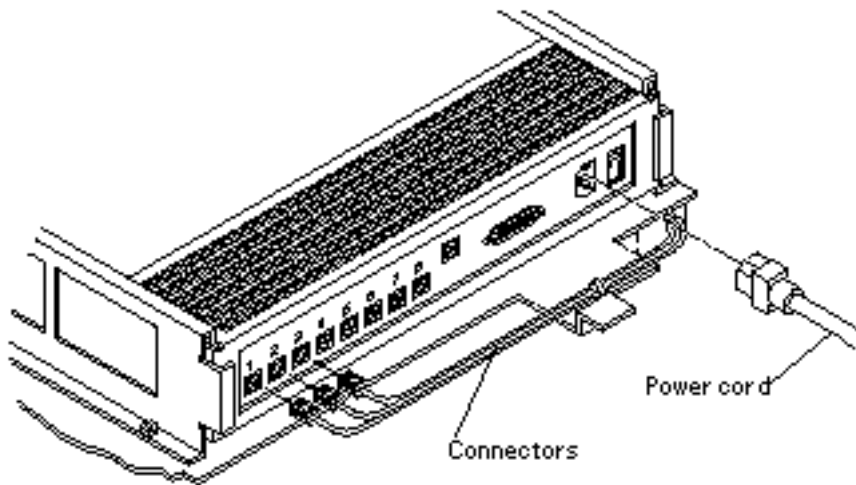

Figure 2-4 Terminal Concentrator Cable Locations
5. Connect the power cord to the terminal concentrator, as shown in Figure 2-4. Connect the other end to the power distribution unit.